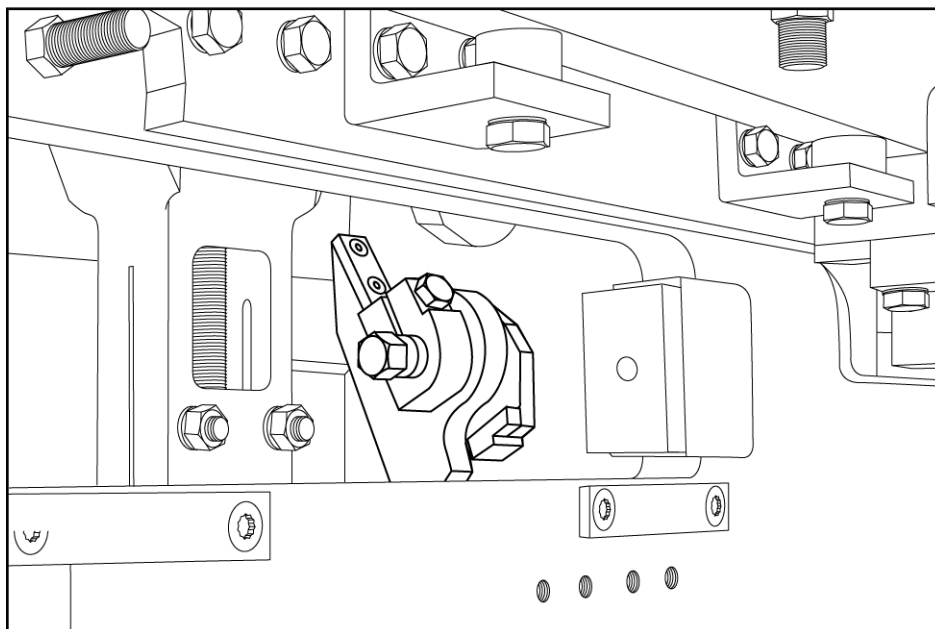

Figure 5.6 MOLD LOCKS IN OPEN POSITION (LEFT LOCK SHOWN)
- 5.3.25 Open mold locks (left and right) as shown in figure 5.6.